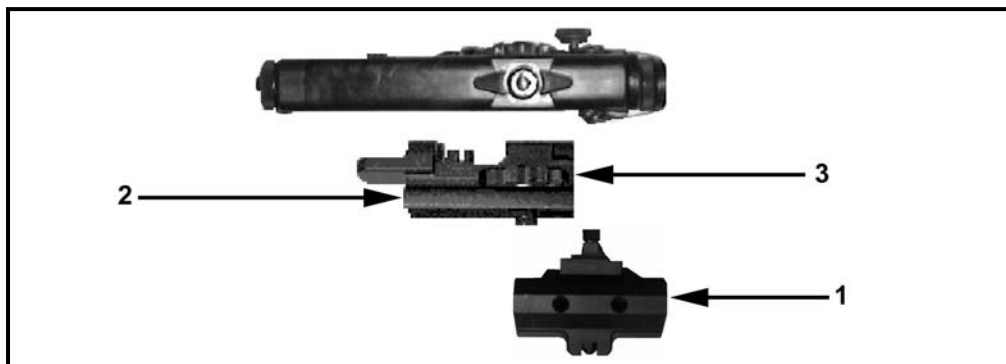

Figure 2-33. MILES training extender bracket installation on M16-/M4-series weapons.
c. **M16/M4 MILES Mounting Procedures** (Figure 2-33, page 2-22). When conducting MILES training with the Insight rail grabber (1) or bracket assembly (4), the AN/PEQ-2A is attached to the M16-/M4-series weapons using the training extender bracket (2). The training extender is hand tightened by turning the thumb wheel (3) on the training extender clockwise. The training extender bracket is not required when mounting the AN/PEQ-2A onto the side of the MWS. The Picatinny rail grabber does not require the training extender. (For further information refer to TM 11-5855-308-12&P.)